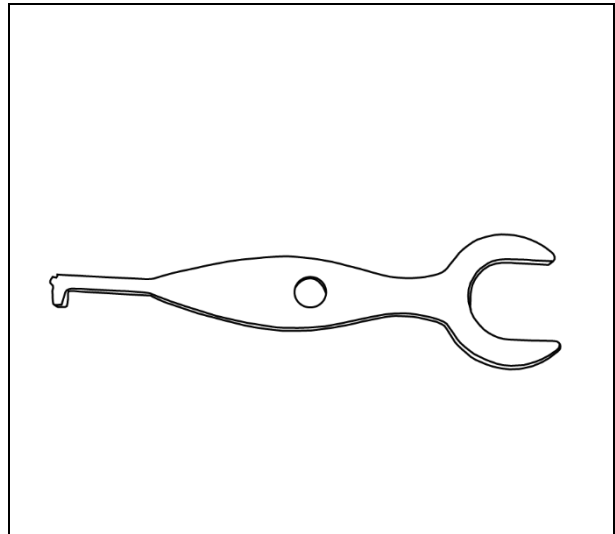

Figure 8
- The key part (Figure 8, left side) can be used to unlock the shroud of the i-clean handle for access to the battery and tank.
- The spanner part (Figure 8, right side) can be used to open the metal ring unit. This part will be used to replace the cleaning ring.